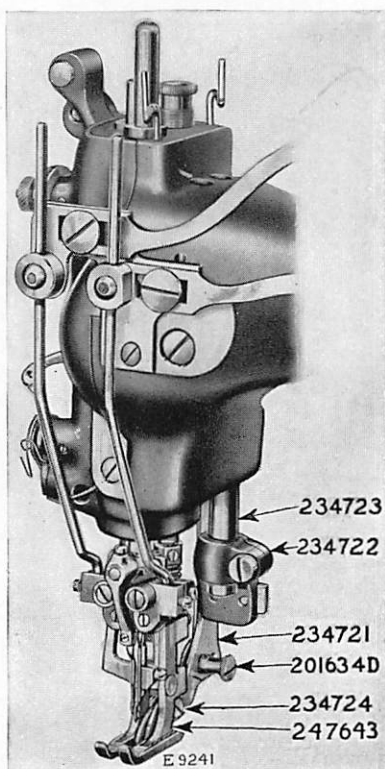
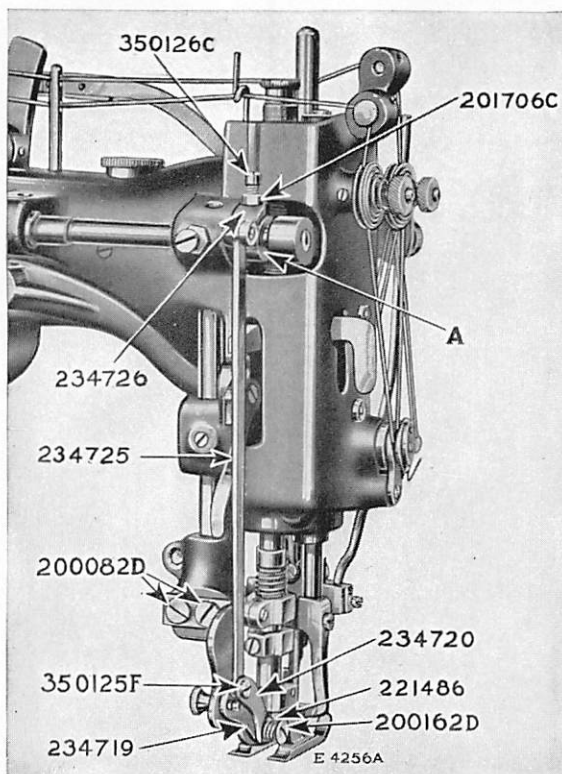

Fig. 19
Fig. 20
1. Remove the regular Presser Foot and Presser Bar Guide from the machine and fasten the Presser Bar Guide and Support 234723, Fig. 19, and Presser Foot 247643, Fig. 19, in position on the machine as shown in Fig. 19.
3. Place Picot Edge Cutting Blade Arm Bracket 234722, Fig. 19, in position on Presser Bar Guide 234723, Fig. 19.
5. Place the Attachment (with Thumb Nut 201634D, Fig. 19, at the back end of slot) in position by inserting the Knives in between the Presser Foot Shoes, and fasten the Attachment on the Arm Bracket 234722, Fig. 19, with the two screws 200082D, Fig. 20.
6. Loosen the Pinch Screw in the Arm Bracket and raise the Attachment on the Presser Bar Guide until the centre of the Knife Fulcrum Stud 234724, Fig. 19, is $\frac{7}{16}$ " above the top of the Throat Plate. Place a scale or straight edge across Attachment Arm 234721, Fig. 19, from front to back, and line up parallel with the presser foot, the cutting edges of the knives to be in line with the centre of the Piercer, then tighten the Pinch Screw.
7. Remove the Set Screw in the Rock Shaft Collar (A, Fig. 20).
8. Place the Operating Lever 234726, Fig. 20, in position on the Rock Shaft Collar (A), using Screw 350126c, Fig. 20, in place of Set Screw and Check Nut 201706c, Fig. 20, to hold the Lever and Rock Shaft Collar in position.
10. Fasten the Operating Lever with the Screw and Nut, using care to have the point of the upper Knife Blade 234720, Fig. 20, just above the Throat Plate.
11. Loosen the Thumb Nut 201634D, Fig. 19, and pull it forward until the point of the lower Knife Blade 234719, Fig. 20, rests on the Throat Plate, then tighten the Thumb Nut. The point of the knife should be just back of the needle hole.
The knives should not cut into the first bar back of the needles as this bar is required to hold the fabric in forming the hemstitch. If the knives cut into the first bar, which may occur when using a long stitch, there are two shims 234735 (Fig. 21) which have been provided to insert between 234721 and 234722 (Fig. 19) to position the knives further back so that they will cut the second bar only.
13. When it is desired to do straight hemstitching with the Attachment in place, loosen Thumb Nut 201634D, Fig. 19, and push it to the back end of the slot, then tighten it. This will raise the lower knife so as to permit the fabric to pass under it.
Remove the Cap Screw 200162D, Fig. 20, together with Spring 221486, Fig. 20, and Hinge Screw 350125F, Fig. 20, push back the knife blade Hinge Stud 234724, Fig. 19; both knife blades can then be easily removed or replaced.